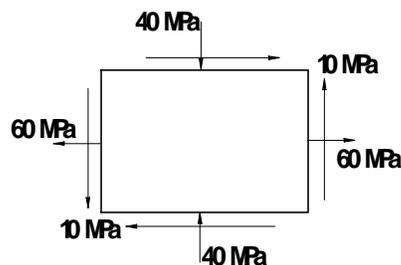

Fig. 3(c)
- 2 a. Derive an expression for relationship between Young's modulus, modulus of Rigidity and Poisson's ratio. (10)
- b. Two bars of the same length, one of steel, the other of brass, have their ends firmly united. The areas of cross-sections of the steel and brass bars are respectively 850 mm² and 1000 mm². Find the stresses in steel and brass when the temperature falls by 100°C. Take E_s = 200GPa, E_b = 80GPa, α_s = 0.000012/°C and α_b = 0.000021/°C. (10)
- 3 a. Define Principal Stresses and Principal Planes. (03)
- b. Prove that the sum of normal stresses on any two mutually perpendicular planes is a constant in a general two dimensional stress system. (07)
- c. A plane element is subjected to stresses as shown in fig.3(c). Determine principal stresses maximum shear stress and their planes. Sketch the planes determined. (10)